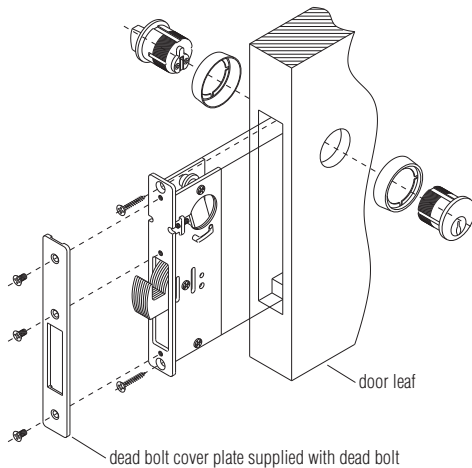

Figure 7
13. Install the lock set, if required. Following the manufacturer's directions, install the lock set in the pre-mortised opening in the door (Figure 7).
14. Position the latch plate in the door jamb and secure it. Slide the latch plate up over the cutout in the door jamb. Slide the door until it is nearly shut and actuate the lock so the position of the latch plate can be determined. Mark the location of the latch plate and secure it with the two screws provided (Figure 7).